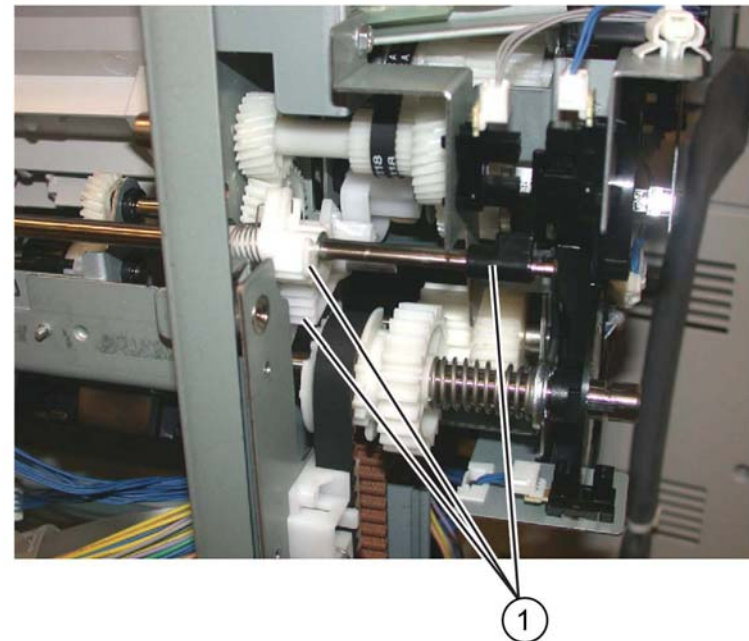
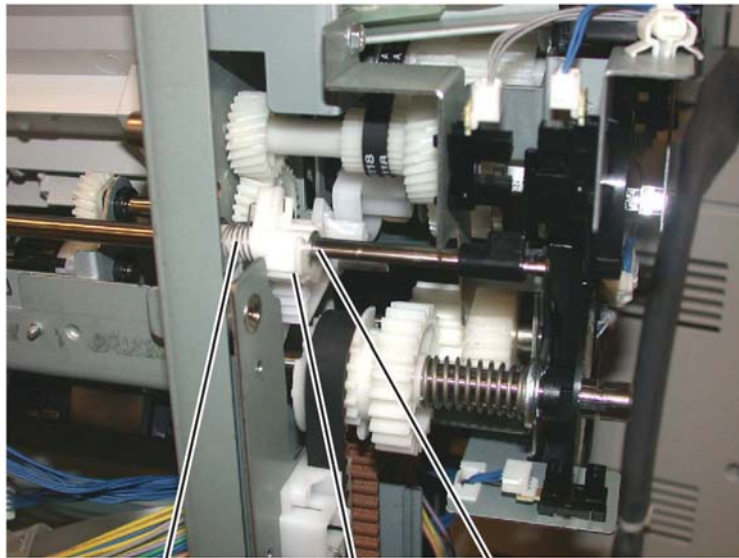

Figure 6 Gear orientation
Figure 7 Prepare to remove the set clamp shaft
14. Prepare to remove the set clamp shaft, Figure 7:
- Remove the rear E-ring (1) from the set clamp shaft
- Slide the gear (2) away from the frame.
- Disconnect the spring (3) from the gear.
NOTE: Note the position and orientation of the set clamp shaft gear and the cam gear that it engages (1). When installing the set clamp shaft, these gears must engage in the same manner, Figure 6.